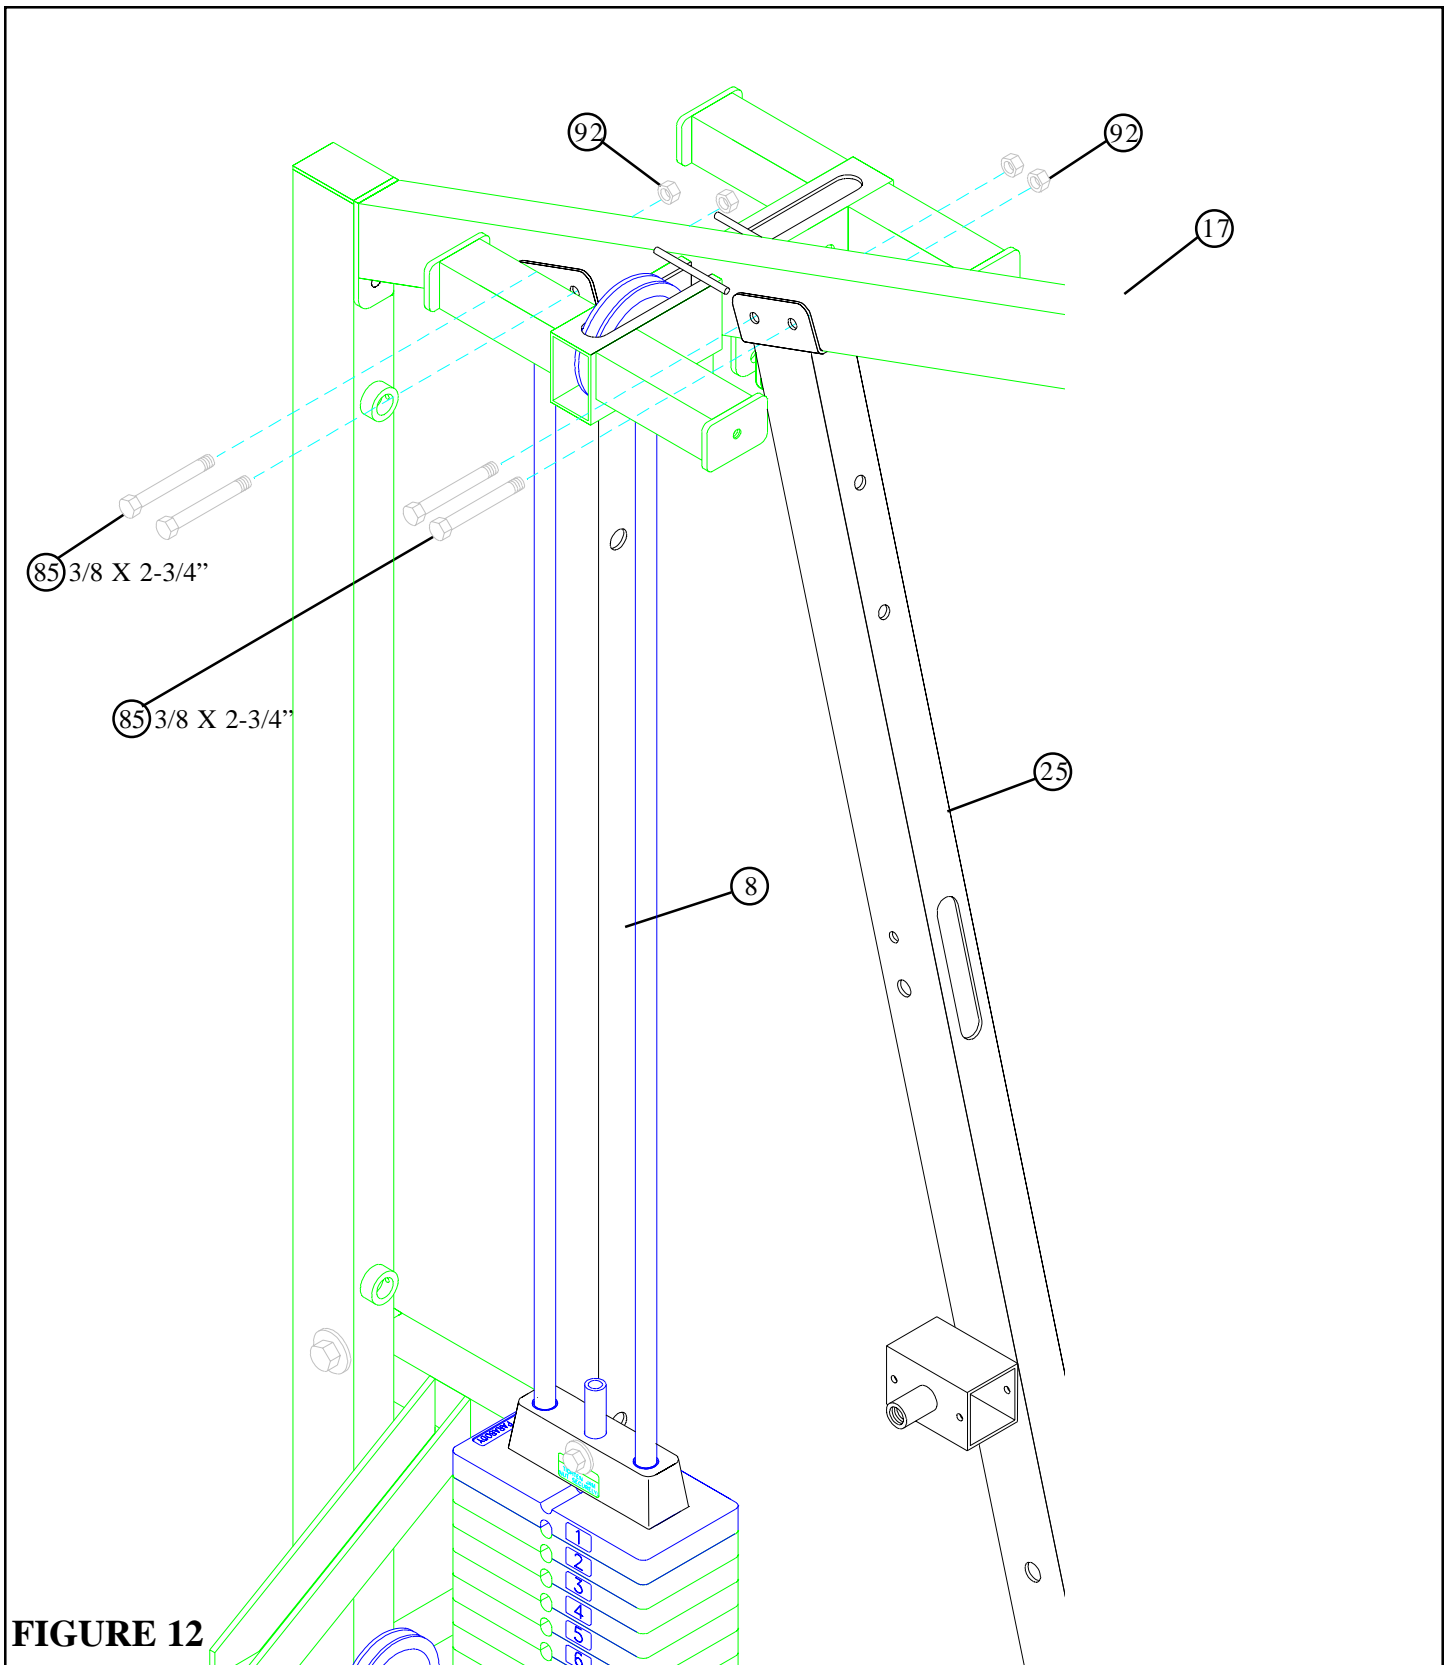

FIGURE 12
- **LOOSELY** assemble the TOP BOOM (17) to the top of the MIDDLE (8) & FRONT UPRIGHT (25) using four 3/8 X 2-3/4" BOLTS (85) and four 3/8" LOCK NUTS (92). See FIGURE 12.